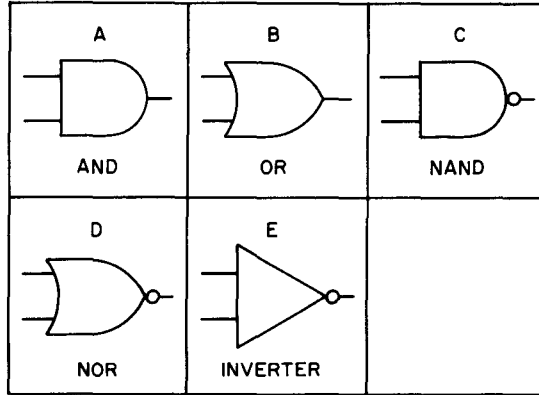

Figure 3-3. Gate Symbols
3-14. Figure 3-3(A) represents a basic AND gate. The AND gate output is HIGH if all inputs are HIGH. An AND gate may have two or more inputs. Figure 3-3(B) represents a basic OR gate. The OR gate output is HIGH if one or more of its inputs is HIGH. An OR gate may have two or more inputs.
3-15. AND and OR gates are shown in Figure 3-3(A,B). A circle on the output of a logic symbol indicates a LOW when activated as shown in Figure 3-3(C,D). Thus, a circle indicates inversion. An AND gate with an inverted output is called a NAND gate; and OR gate with an inverted output is called a NOR gate. An amplifier with an inverted output is called an inverter, Figure 3-3(E).